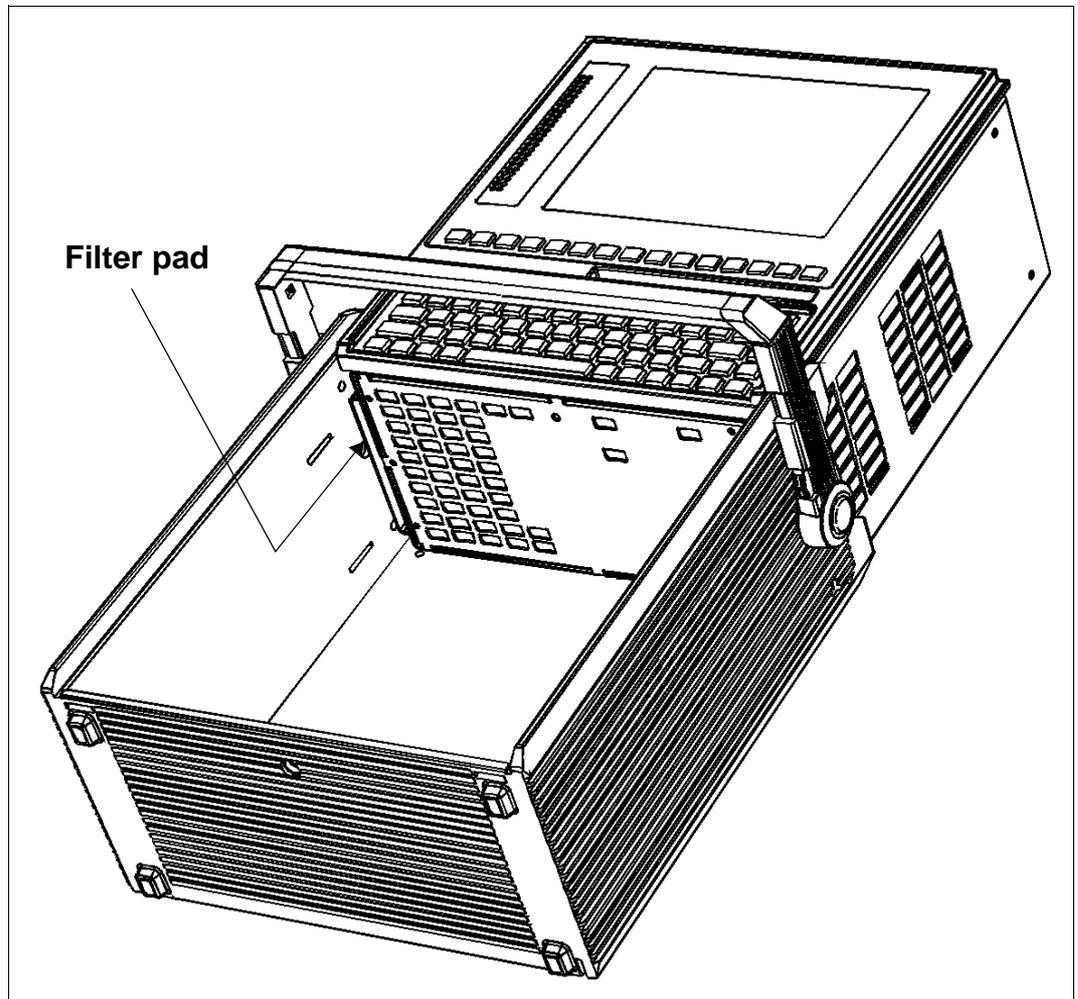

Fig. M-4 Replacing the ANT-20 filter pad
4. Replace the filter pad (see Fig. M-4).